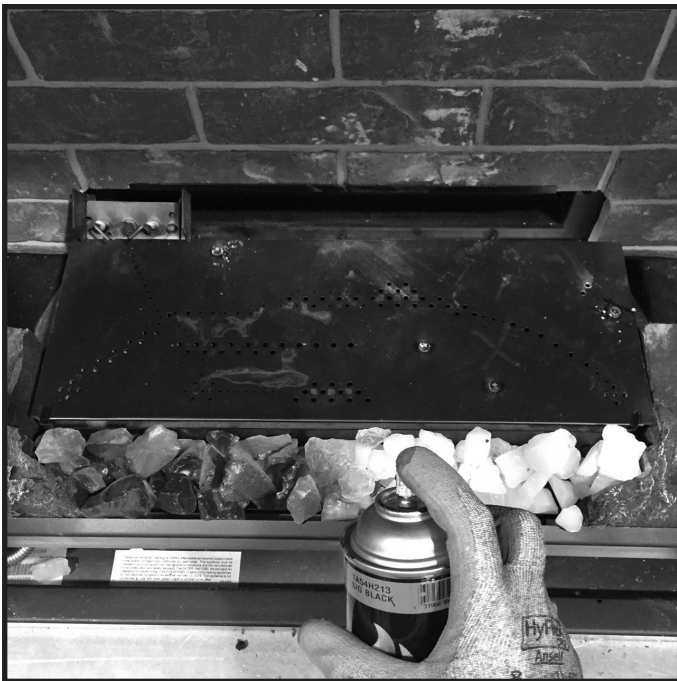

Figure 11.18 Paint Teco-Sil
3. Fog the Teco-Sil to the desired look, using high temperature black paint (Hearth & Home Technologies part number TUP-GBK-12). See below for fogging tips. Prior to painting, take precautions to prevent any overspray from reaching the pilot assembly. Paint is not included with the appliance. See Fig 11.18.